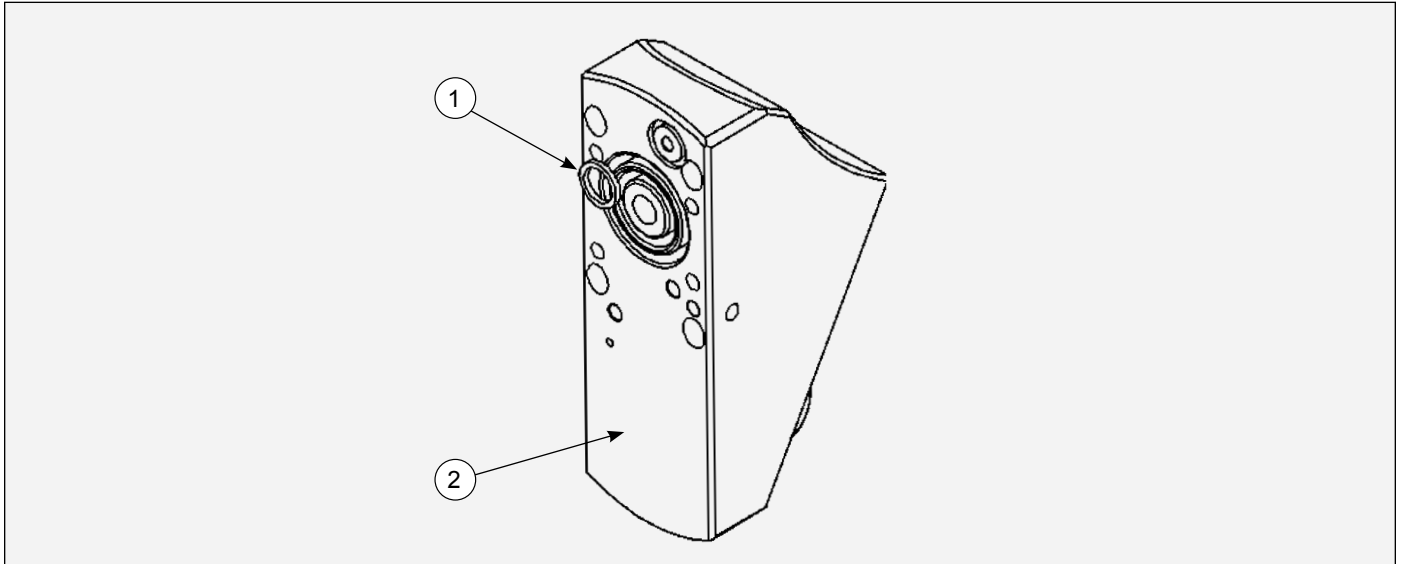

Figure 28: Single Head 60°
**80423-00 SINGLE HEAD 60° - PARTS LIST (Figure 28)**